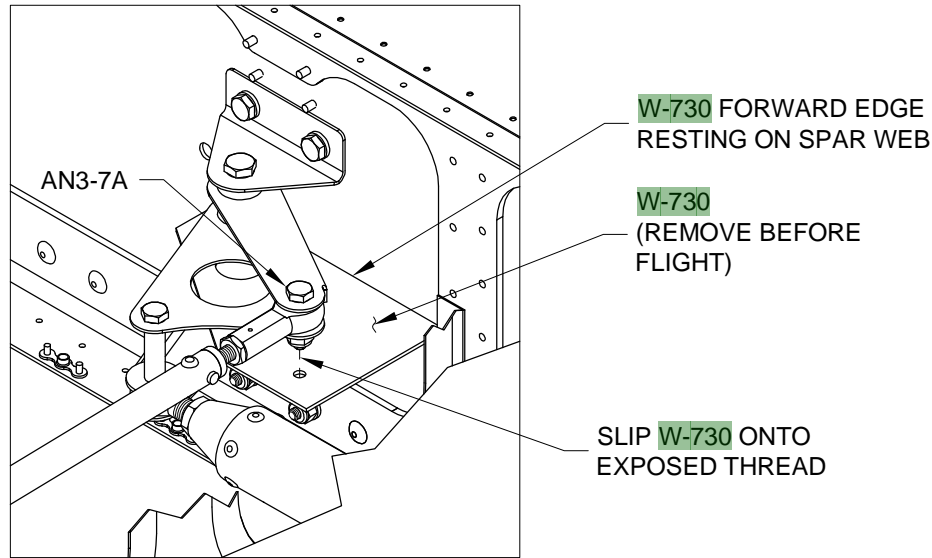

FIGURE 2: INSTALL BELLCRANK JIG
Step 2: Rig the ailerons. Use the W-730 Bellcrank Jig to set the aileron actuation system (left wing shown) to its neutral position as shown in Figure 2. **NOTE: It may not be necessary to remove the bellcrank to aileron pushrod bolt. There should be enough thread protruding from the nut to allow the use of the bellcrank jig.**